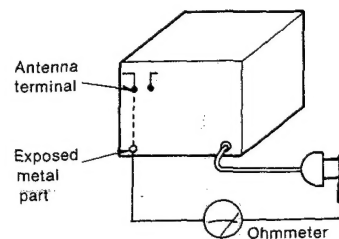
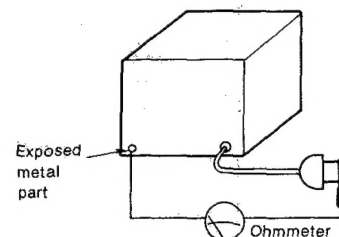

Fig. 1
Fig. 2
3. Measure the resistance value with ohmmeter between the jumpered AC plug and each exposed metal cabinet part, such as screwheads, antenna, control shafts, handle brackets, etc. Equipment with antenna terminals should read between 3 MΩ and 5.2 MΩ to all exposed parts* (Fig. 1) Equipment without antenna terminals should read approximately infinity to all exposed parts. (Fig. 2)